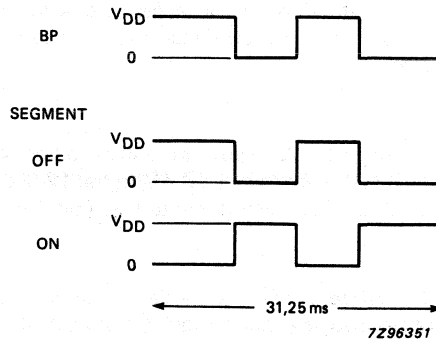

Fig. 5 Backplane and output signals.
The circuit outputs static data to the LCD. The generation of the backplane signal (BP) and the output signals are shown in Fig. 5. Each segment is driven by an individual output. The circuit is suitable for LCDs with a single backplane.